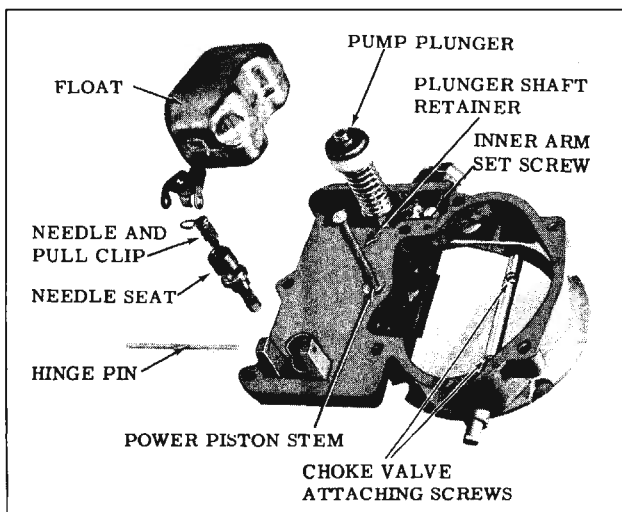

Fig. 9-38 Air Horn
7. Invert the air horn and place on a flat surface, then remove the float hinge pin, float and needle assembly. (Fig. 9-38)